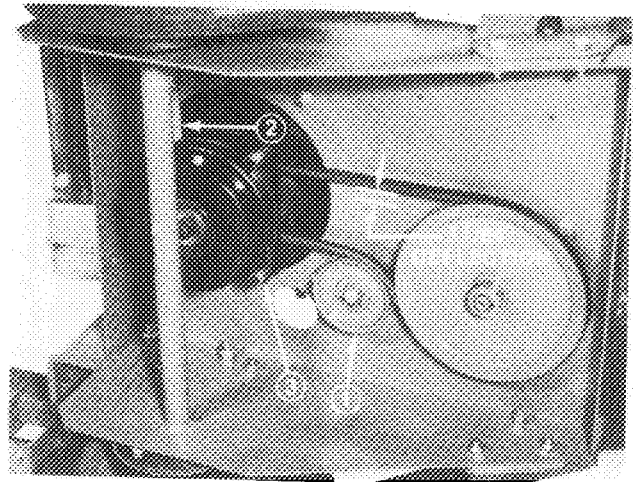

Figure 25
1. Loosen capscrew and flange nut securing idler pulley to frame (Fig. 25). Slide pulley outward relieving belt tension.
3. Remove left front engine mounting bolt securing clutch retainer to frame (Fig. 25). Unhook retainer from clutch and remove retainer.
4. Remove belt from drive pulley and clutch (Fig. 25).
8. Position and secure idler pulley to frame so belt deflection is no more than $11/64$ " when 5–1/2 lb of force is applied to mid span of long leg of belt (Fig. 25).
1. To adjust clutch, tighten or loosen locknuts on flange studs (Fig. 25).